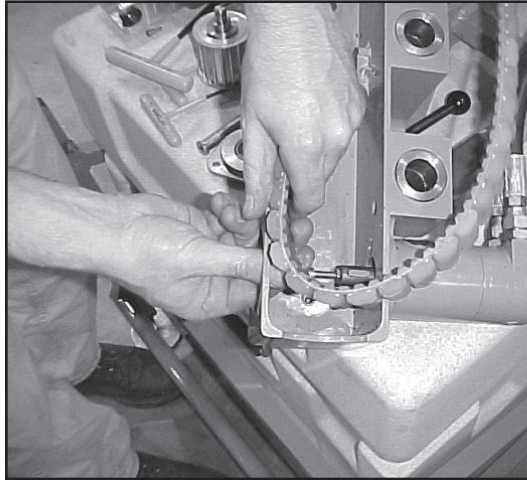

Figure 15
1. Slide track past motor drive shaft (Figure 15)